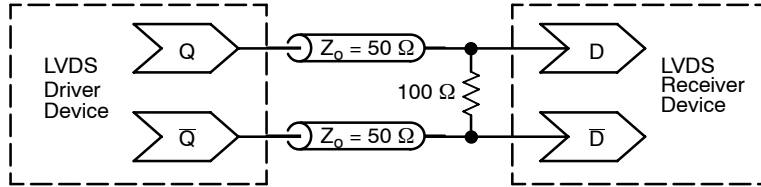

Figure 14. Typical LVDS Termination for Output Driver and Device Evaluation
- LVDS outputs require 100  $\Omega$  receiver termination resistor between differential pair. See Figure 14.